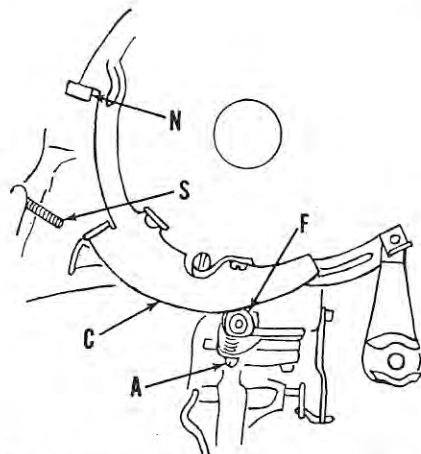

Fig. Mc77 — Schematic view of speed control mechanism used on early models. Refer to text for details.
Models Before 1961: Refer to Fig. Mc77. Move the speed control grip to "Slow" position and the shift lever to "Neutral." Turn the speed control grip toward the "Fast" position until the synchronous cam (C) contacts the "Neutral" stop limit lever (N). Turn the adjustment screw (A) until cam follower (F) just contacts cam (C) and throttle valve begins to open.